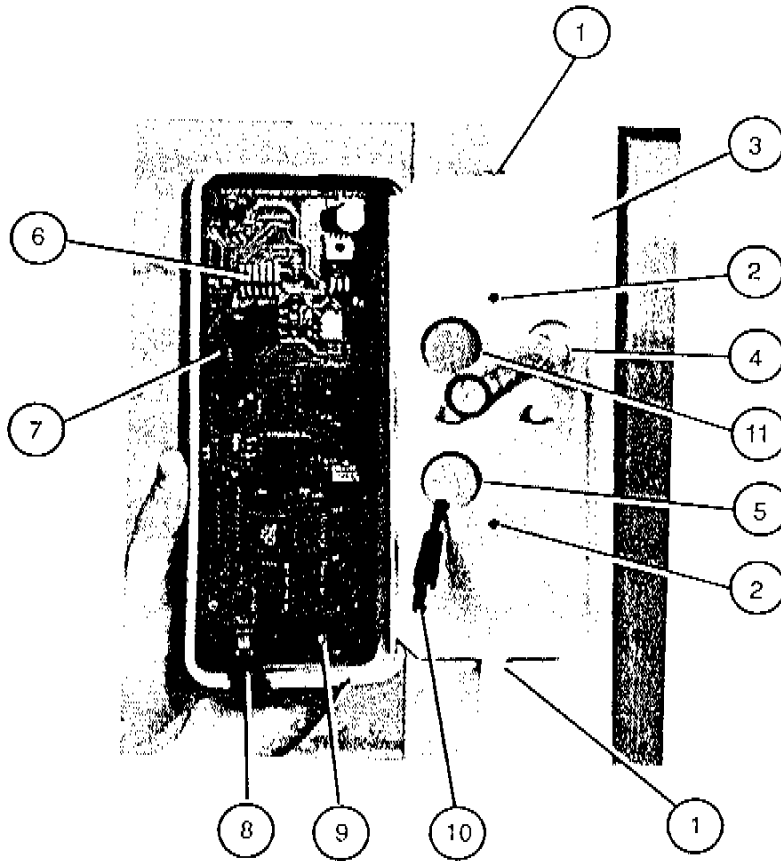
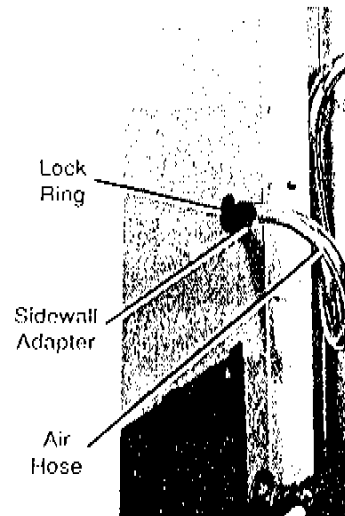

Figure 2.
Figure 3.
Installation of the monitor requires drilling holes in the fume hood as shown in Figure 2. Additionally, many fume hoods will require a side wall adapter hose installation as shown in Figure 3.
- Step 2: Use the back plate (figure 2, item 3) as template to drill 2 holes, 0.104" diameter, (figure 2, item 2) to secure the back plate to the fume hood.
- Step 3: Use the back plate (figure 2, item 3) as template to drill 1 hole, 0.75" diameter, (figure 2, item 4) for air flow from the monitor to the fume hood.
- Step 4: If the power cord is routed through the face of the fume hood, use the back plate (figure 2, item 3) as template to drill 1 hole, 0.875" diameter, (figure 2, item 5) to route the power cord from the back of the hood to the front. The power cord can be also routed from the front of the monitor, in which case this hole is not needed.
- Step 5: If the monitor will be connected to external devices (such as a relay indicator), then use the back plate (figure 2, item 3) as template to drill 1 hole, 0.875" diameter, (figure 2, item 11) to route external wires to the "external interface" (figure 2, item 6) of the monitor.
- Step 6: In some applications, leaving the flow tube exposed to the interior of the fume hood will provide good results. However, many installations will require using a side wall adapter to guide air flow from the monitor to the fume hood as shown in Figure 3. In these cases, drill a 0.515" hole in the side wall of the fume hood, approximately 6" behind the sash and even with its bottom when fully open. Insert the side wall adapter from the inside of the hood and lock with the lock ring.
- Step 7: If a side wall adapter is used, connect the supplied air hose between the side wall adapter (figure 3) and the flow tube (figure 2, item 7) through the back plate orifice (figure 2, item 4). Secure hose firmly, and cut to length as necessary, to prevent accidental kinks and bends which can affect calibration.
- Step 9: Connect the power cord (figure 2, item 10) to the power jack (figure 2, item 9). The power cord is shown routed from the rear of the fume hood, but may be also routed from the front side.